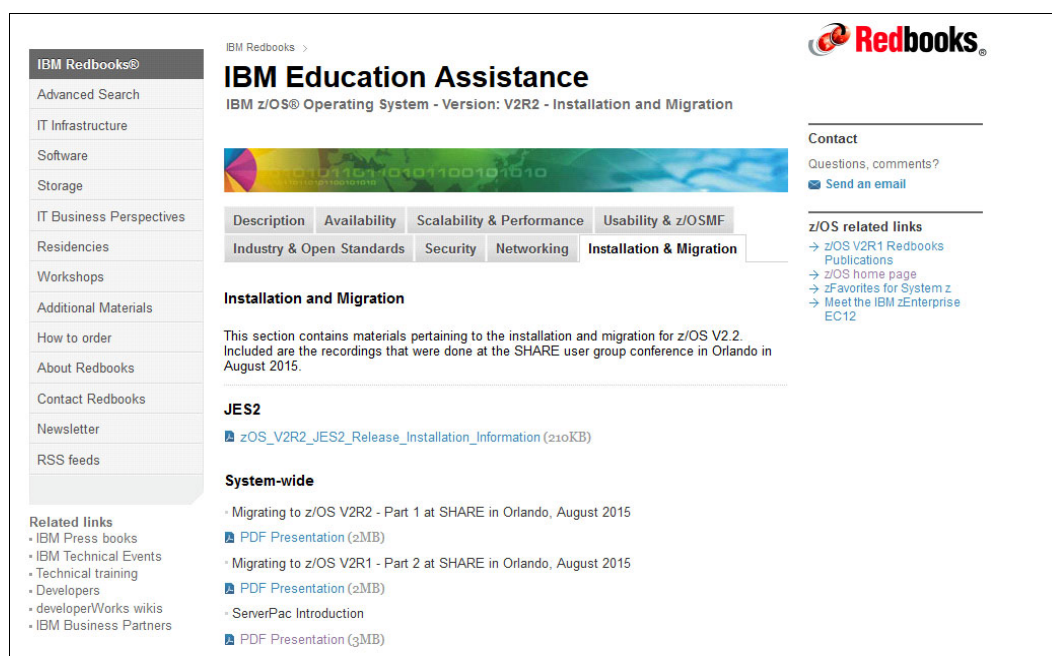

Figure 2-3 IBM Education Assistance
- ▶ IBM Education Assistant: z/OS V2R2 (see Figure 2-3):